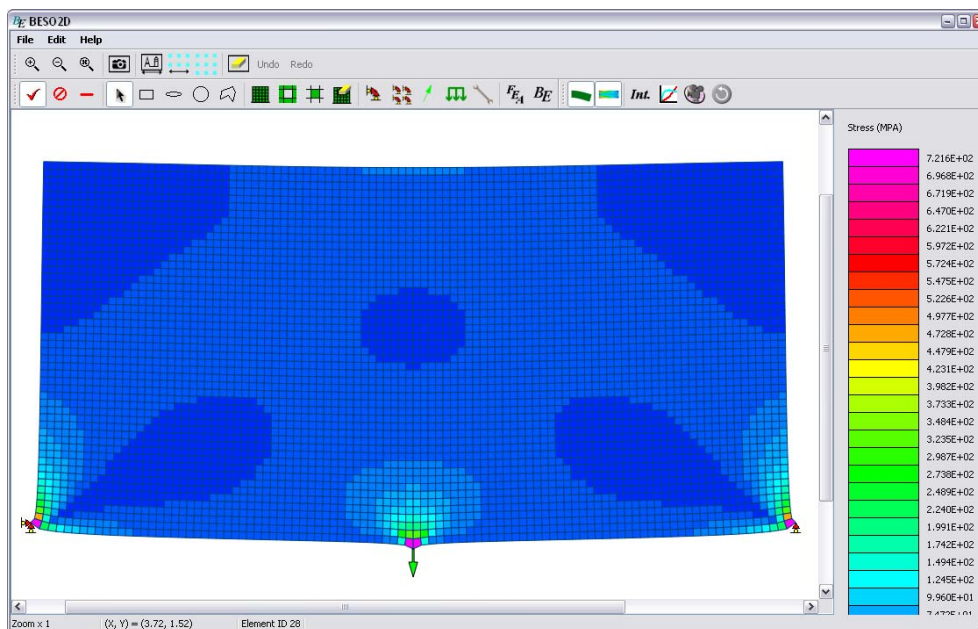

Figure 5 Stress and displacement distributions of the initial model.
- The initial model for the Michell type structure is correctly constructed if the obtained FEA result is similar to that shown in Figure 5.